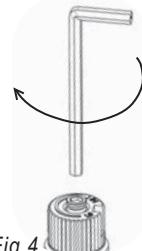

Fig.4
- 14)** Using the Allen wrench as shown in Fig.4, rotate the screw clockwise until snug, do not overtighten.